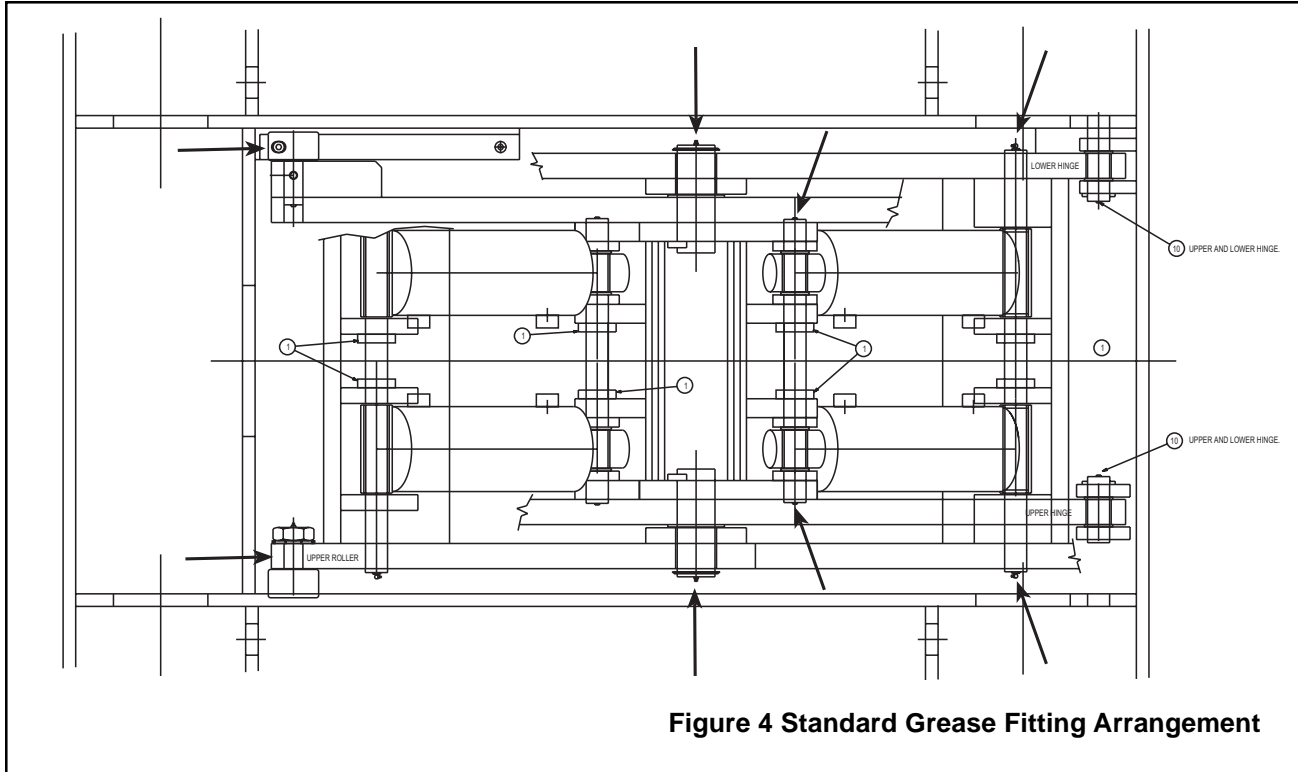

Figure 4 Standard Grease Fitting Arrangement
- * Grease all grease fittings (See Fig. 4)